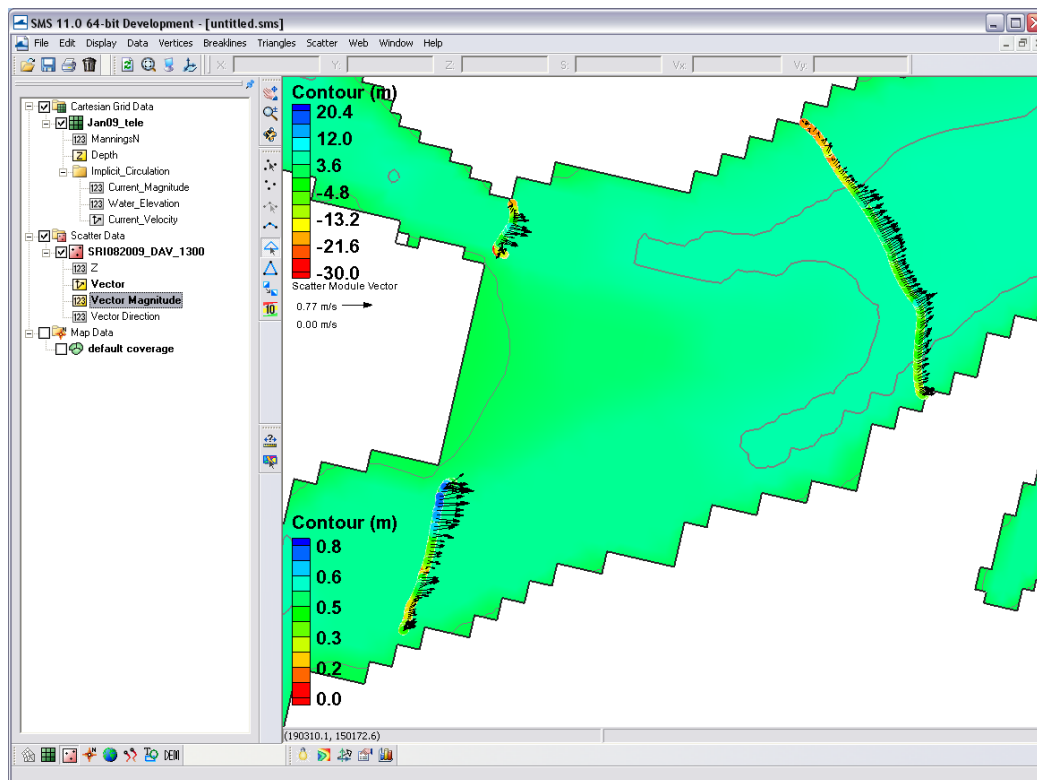

Figure 8.1.11. Color options turned on for scatter points.
4. To display the scatter points with colors representing the flow, go to the *Scatter* Tab under the *Display Options*, and select the *Use Color Contour Scheme* under *Points*. Make the points a size 10 and they will be visible and the color differences noticeable as in Figure 8.1.11.